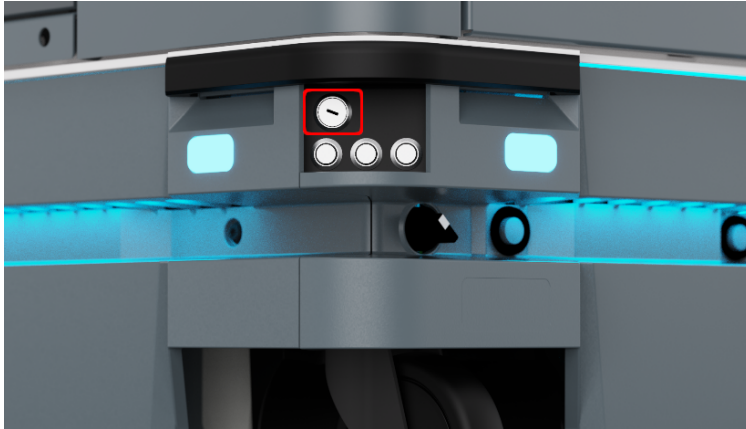

Fig. 4.8: Operating mode key hole is located above the leftmost button
1. On the MiR, turn the operating mode key into manual mode (turn it to the right), see Fig. 4.8.